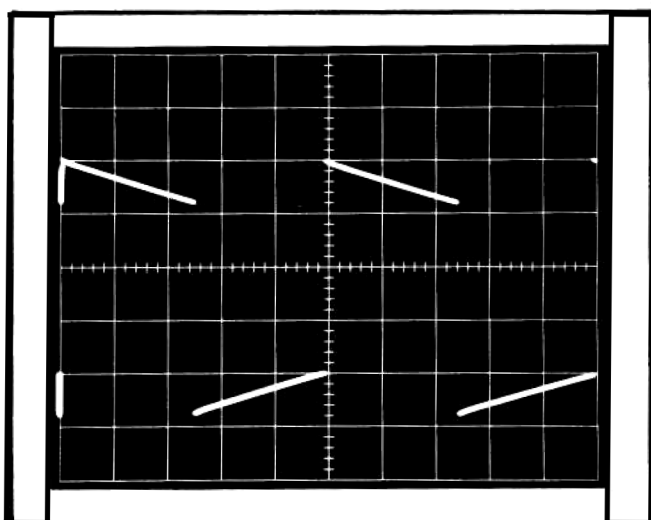

Fig. 5-3. 40 mA Calibrator square-wave. Front-panel GAIN adjusted for 4 divisions.
- c. ADJUST—GAIN control, R318, for 4 divisions of displayed amplitude. See Fig. 5-3.